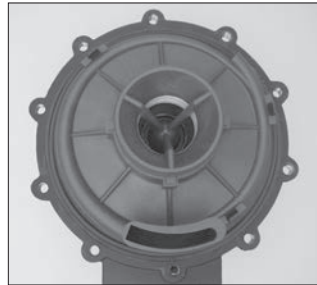

Figure 30
4. Install barrier, inner volute, impeller/inner drive and impeller shaft assembly into the motor adapter (item 12). Line up the center of the inner volute bottom port with the center of the motor adapter foot. See Figure 30.